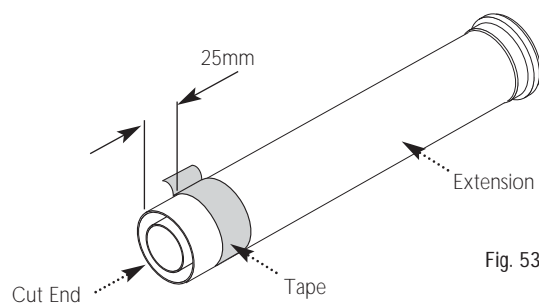

Fig. 53
14. Measure 25mm from the end of the flue extension and apply a length of tape around the outer duct (Fig. 53).